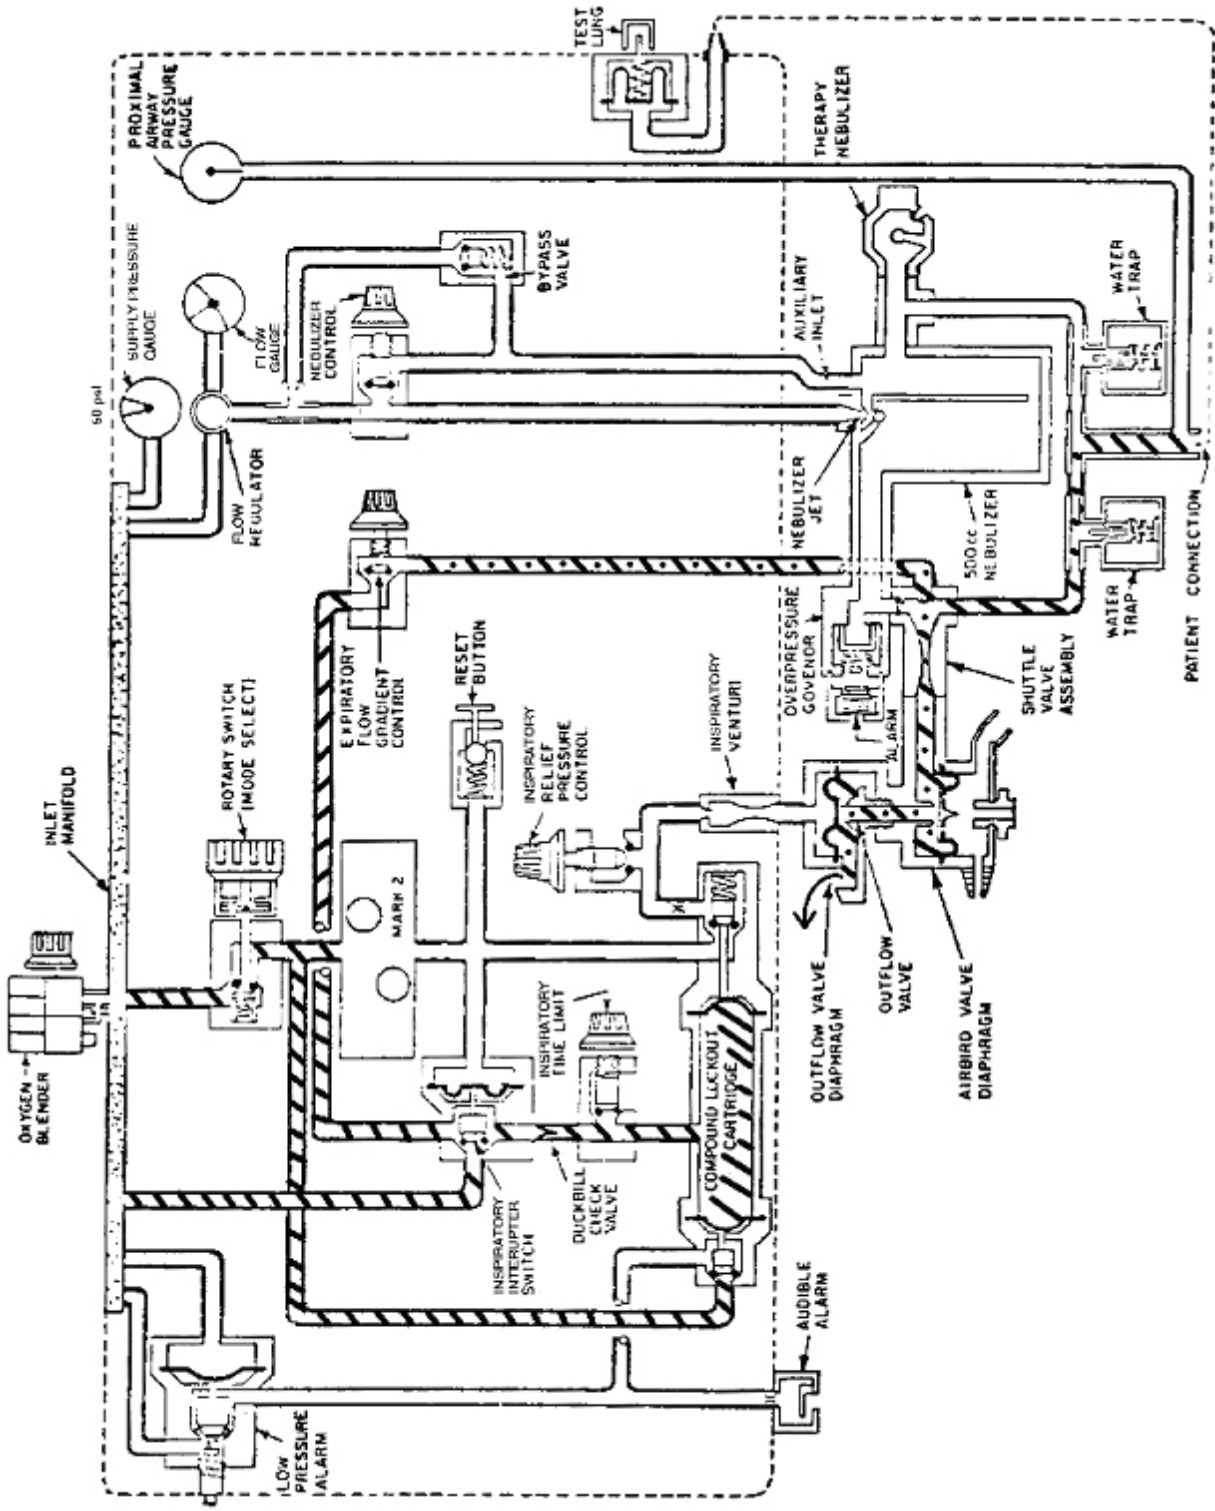

Figure 1-15. Exhalation phase with negative pressure in the controlled IMV mode.
(3) The Mark-2 servo is held in the inspiratory phase but locked out of access to the breathing circuit. The controlled function can be reestablished ONLY by pressing the reset pushbutton, which dumps the gas trapped between the Mark-2 servo and the inspiratory-venturi switch to atmosphere. If a second lockout occurs after the next inspiratory cycle, the controlled-inspiratory time may have exceeded the preset time limit, inspiratory time may be longer than expiratory time, or component failure may have occurred in the Mark 2, holding the unit in inspiration. Malfunction or omission in assembly of the small duckbill-check valve between the outlet of the inspiratory-interrupter switch and the inspiratory time-limit valve would also cause premature lockout.
e. During the expiratory phase (figure 1-15), source gas flows through the inspiratory-interrupter switch to power the jet of the expiratory venturi in the shuttle valve and through the inspiratory time-limit control to load the space between the diaphragms of the compound-lockout cartridge.